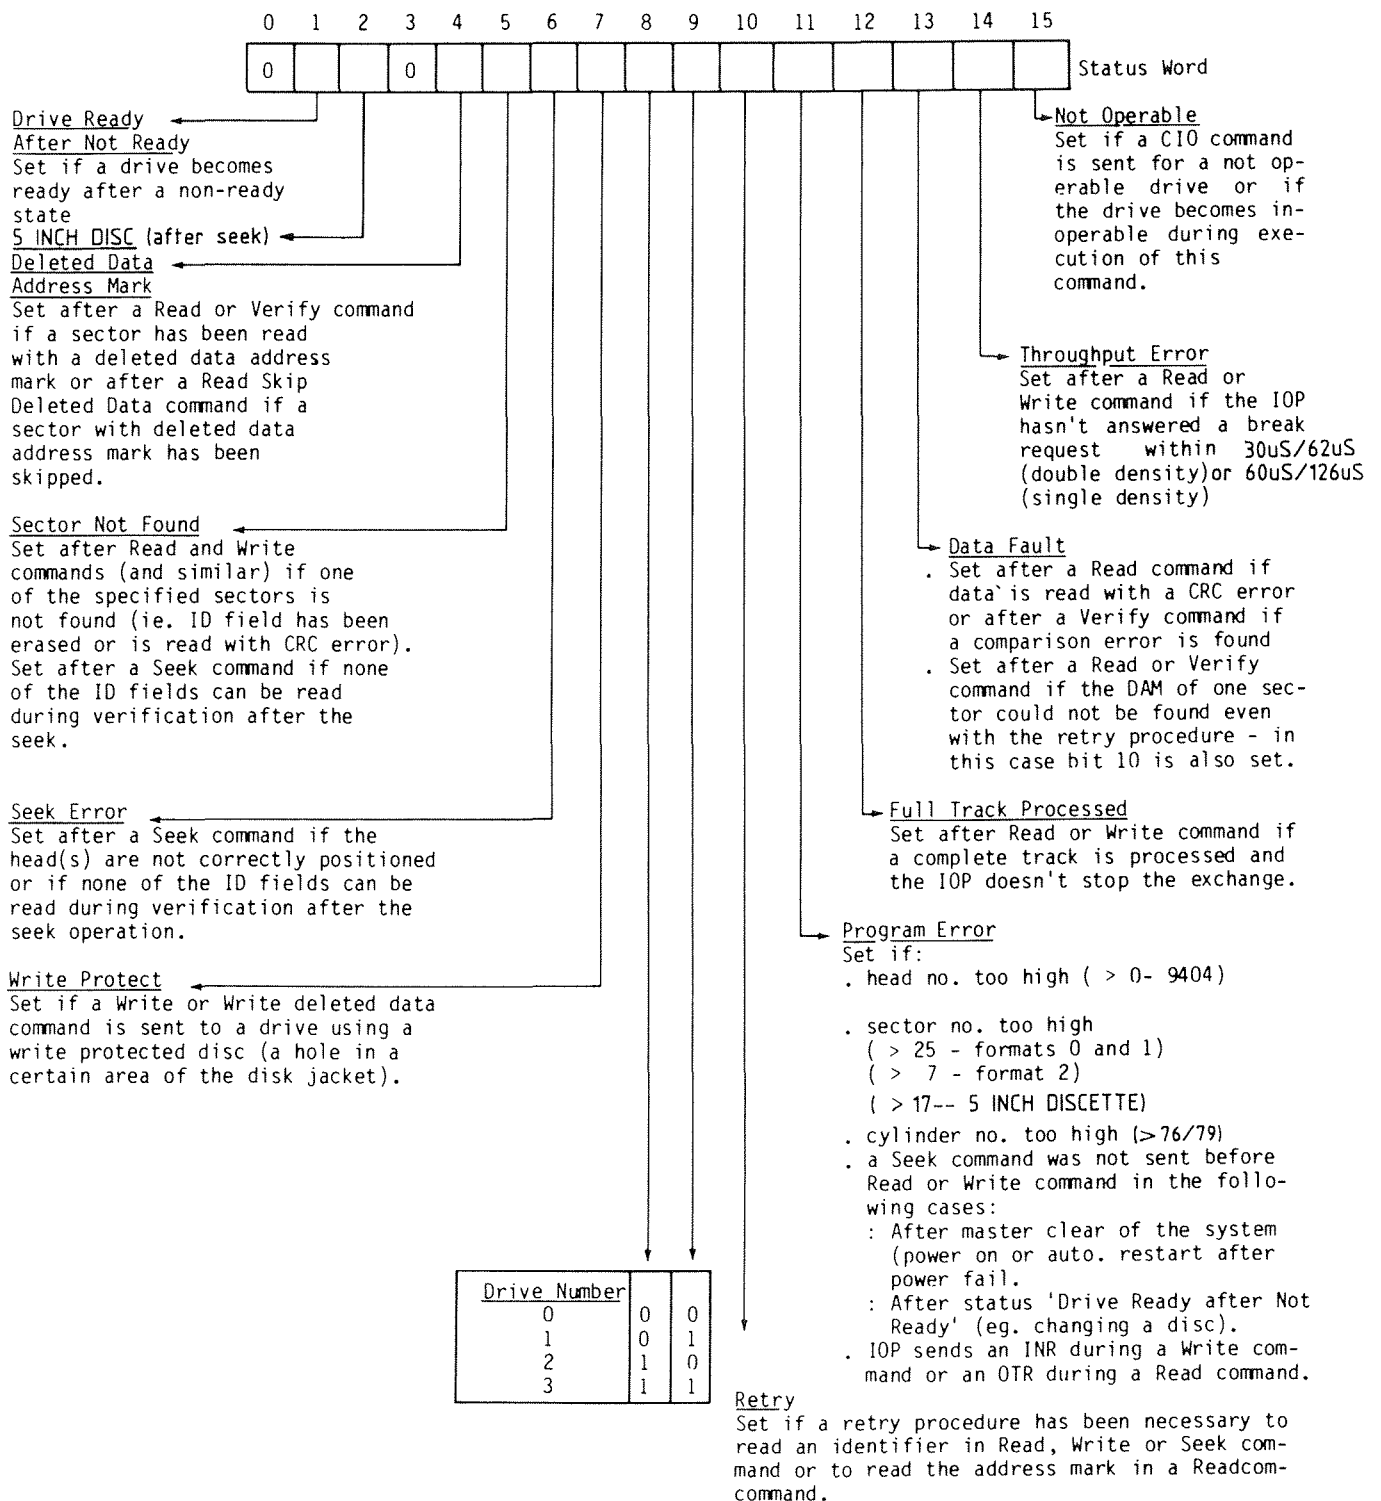

Figure 2.12 EXPLANATION OF STATUS WORD
- 1) The status word is loaded onto the B10 lines of the bus. (See figure 2.12 for an explanation of the status word).